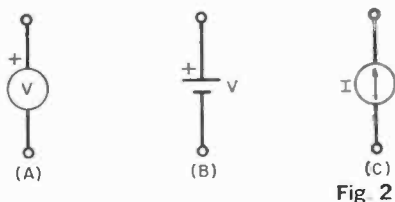

Fig. 2
A. Definition. (1) An *ideal voltage source* is one whose voltage, V , is constant regardless of the current it supplies. (2) An *ideal current source* is one whose current, I , is constant regardless of the voltage across the element to which it supplies current.
B. Symbols. Symbols for ideal voltage and current sources are shown in Fig. 2.